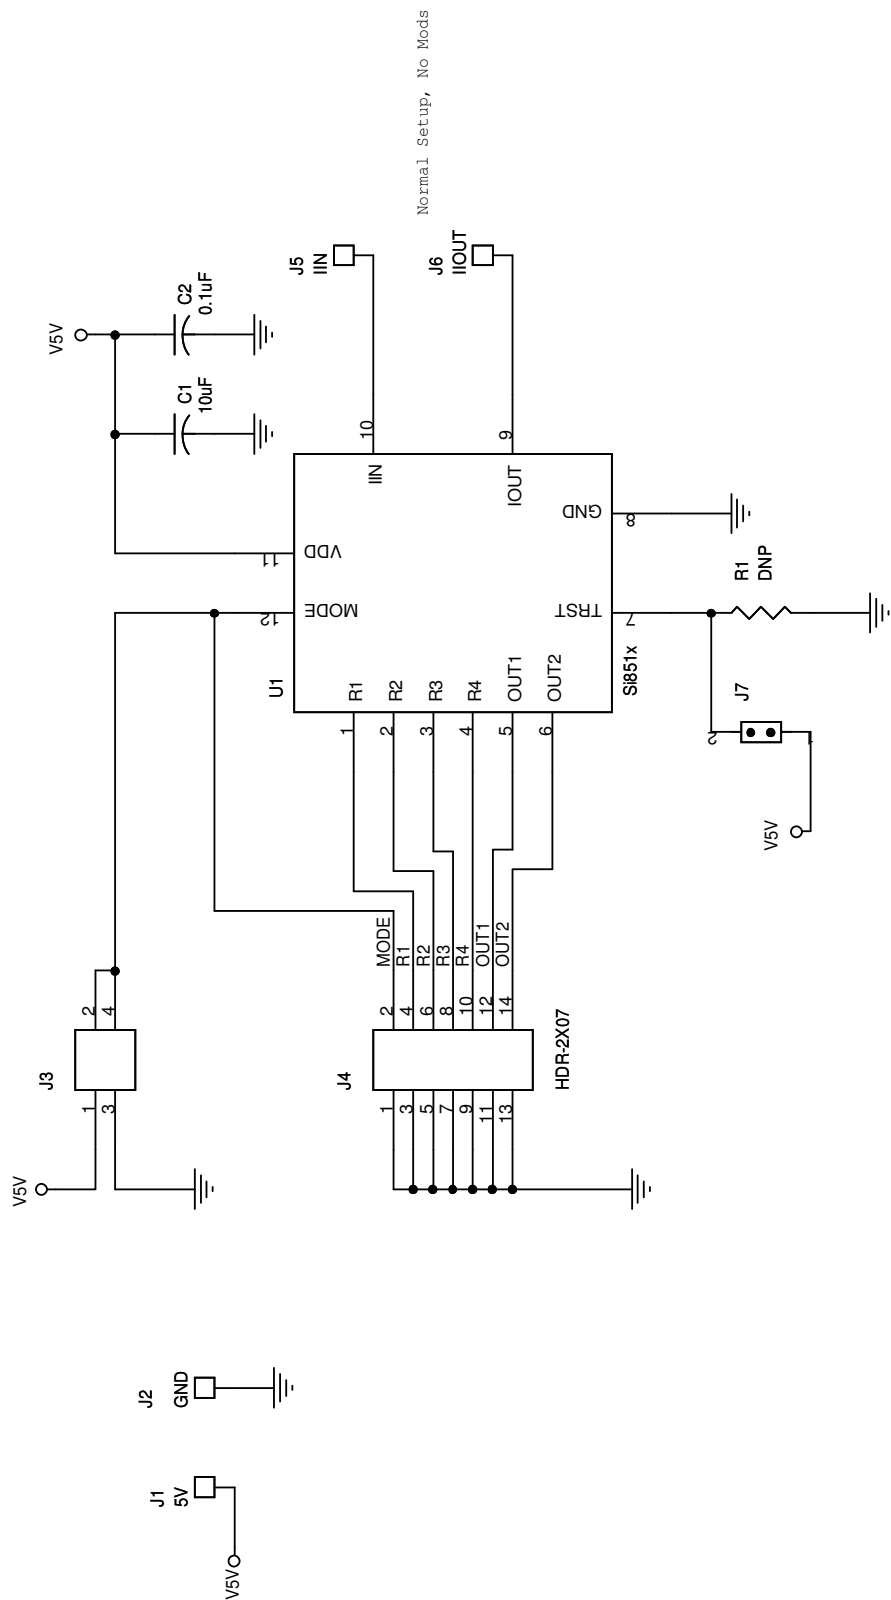
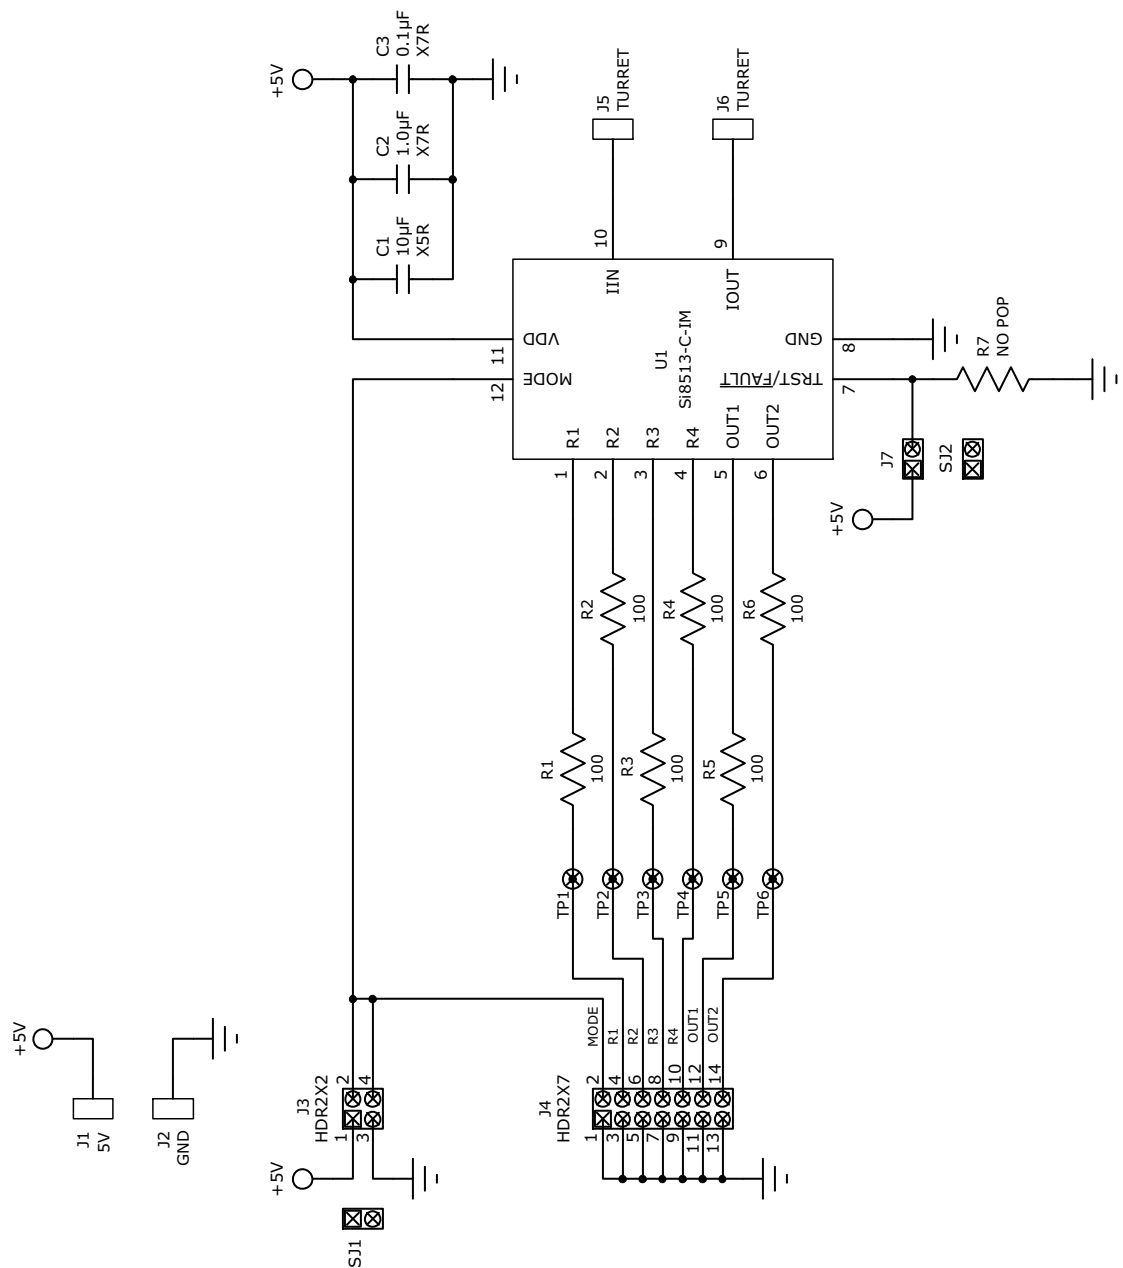

Figure 9. Si85xx-TB Target Board Schematic (1 kV, 10 Amp Target Board)
Figure 11. Si85xx20AQFN-TB Target Board Schematic (1 kV, 20 Amp Target Board)
Connector J7 is used to set the timing for the Si85xx integrator. J7 defaults to Reset option 1 where TRST is tied VDD providing approximately 200 ns of reset time. Reset option 2 is selected by connecting a timing resistor (R1 in Figures 9 and 10 and R7 in Figure 11) from the TRST input to ground.
- Updated Figure 9 title.